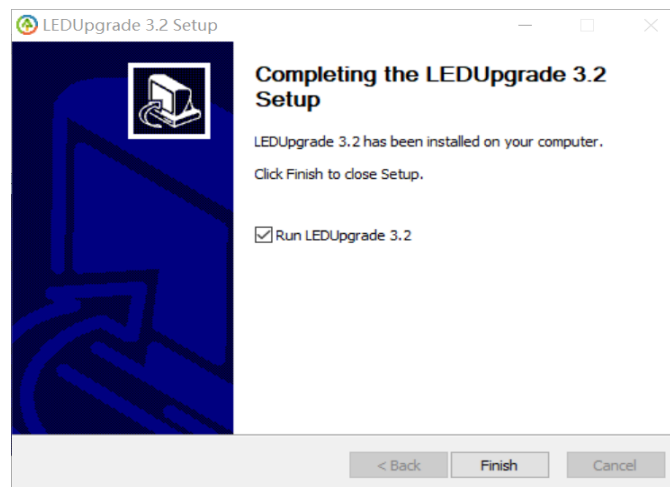

Fig. 2-4 Installation Completed
4) Complete the installation. Select on [Finish] (as shown in Fig.2-4);